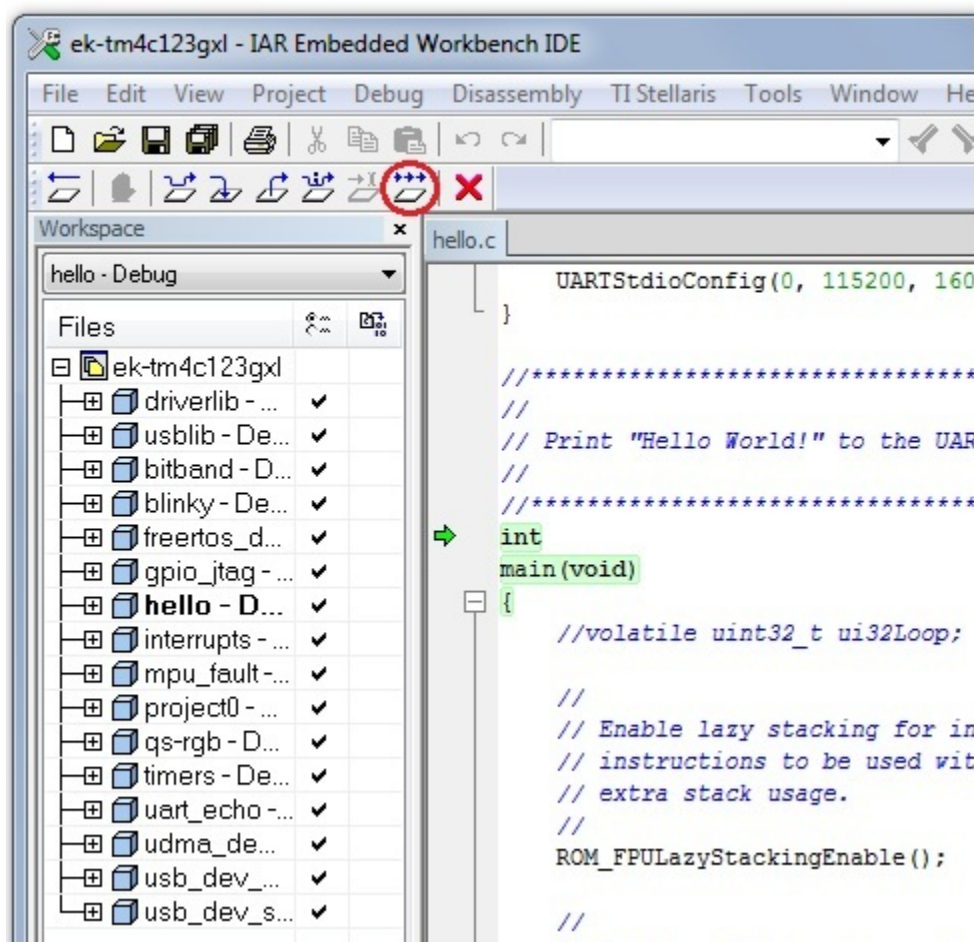

Figure 5.
2. Select Go from the Debug menu or click the Go icon to run the program (see Figure 5).